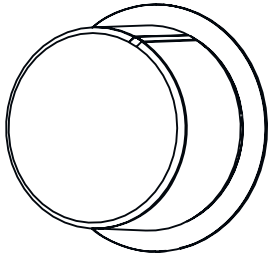

Fig. 14: Pop out on
- Press inward to pop out the button and then adjust (Fig. 14).